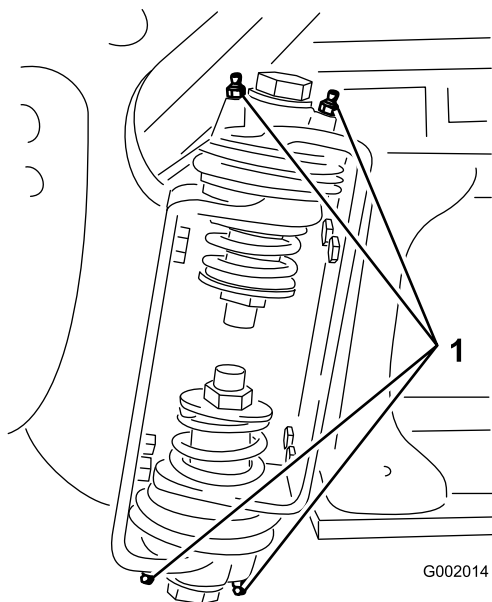

Figure 40
2. Pump grease into the bearing or bushing at each fitting Figure 40.